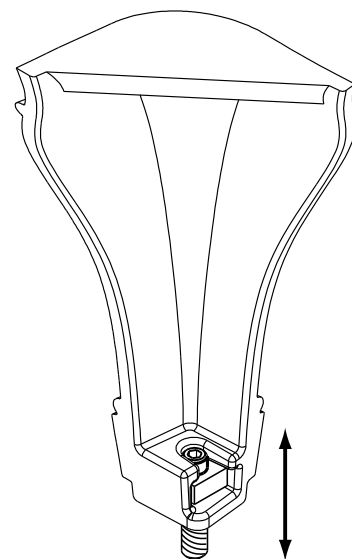

Figure 25.5
10. Use Allen wrench to adjust legs up and down to desired level (Figure 25.5).